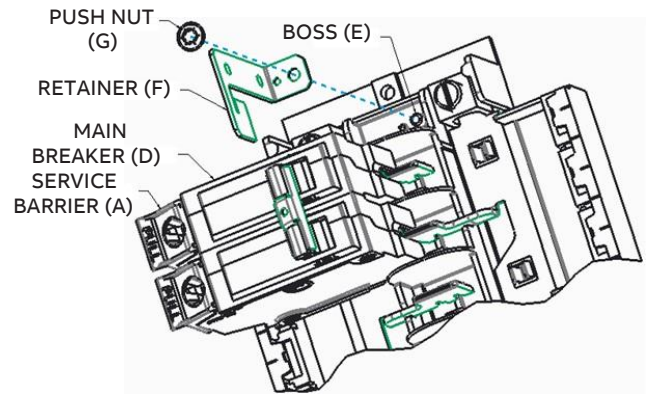

Figure 2. Install Retainer to Secure Breaker
3. Install the 2-pole back-fed main circuit breaker (D) in position shown in **Figure 2**.